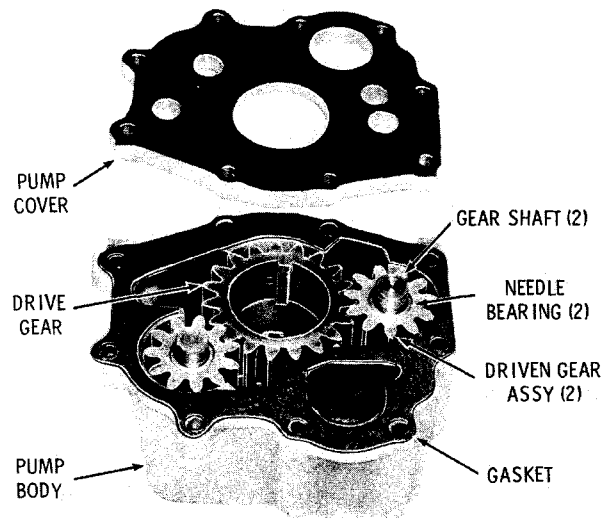

Fig. 6-10. Oil pump assembly
#### a. Disassembly (fig. 6-10)
(1) If oil seal 16 (A, foldout 8) was removed, do not install a new seal. It is not required.
(2) If the needle bearings (fig. 6-10) were removed from the driven gears, install new bearings. Position each bearing so that the replacer tool drives against the numbered end of the bearing cage. Press each bearing flush to 0.020 inch (0.51 mm) below the end surface of the gear.
(3) Install each driven gear assembly onto a gear shaft, making sure they are properly seated in the pump body. Install the drive gear.